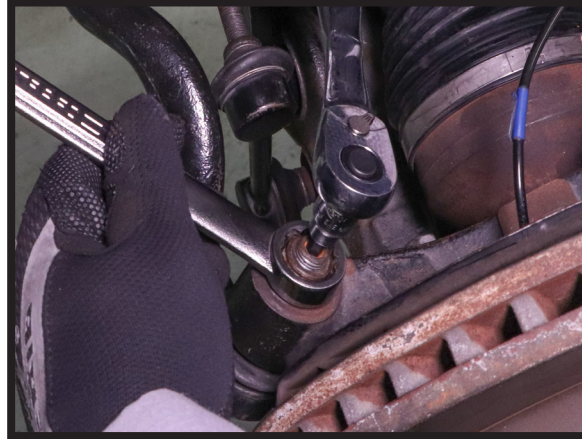

FIGURE 30
5. RECONNECT THE TIE ROD AND TIGHTEN TO MANUFACTURER'S SPECIFICATIONS. (FIGURE 30)